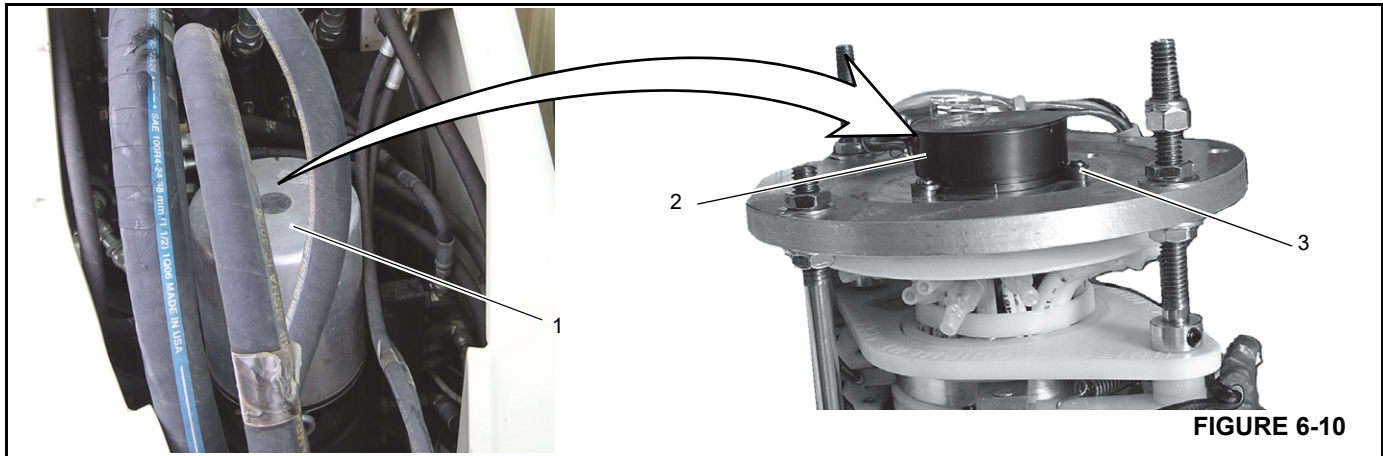

FIGURE 6-10
NOTE: If a new bearing is installed, a new pinion gear (1, Figure 6-10) must also be used. Align the high point (maximum eccentricity) 2, Figure 6-10 on the bearing with the high point on the new pinion gear.
The slew potentiometer is a component of the hydraulic and electric swivel assembly which is mounted inside the superstructure turret. The top part of the swivel assembly is the electrical swivel section (1, Figure 6-10) and contains the slew potentiometer (2, Figure 6-10).
5. Loosen the three screws (3, Figure 6-10) that secure the slew potentiometer to the mounting plate.
6. Rotate the body of the slew potentiometer (2, Figure 6-10) until the slew angle indicates $0.6^\circ \pm 0.1^\circ$.
7. Tighten the three screws (3, Figure 6-10) to secure the slew potentiometer to the mounting plate. Install the electrical swivel cover.